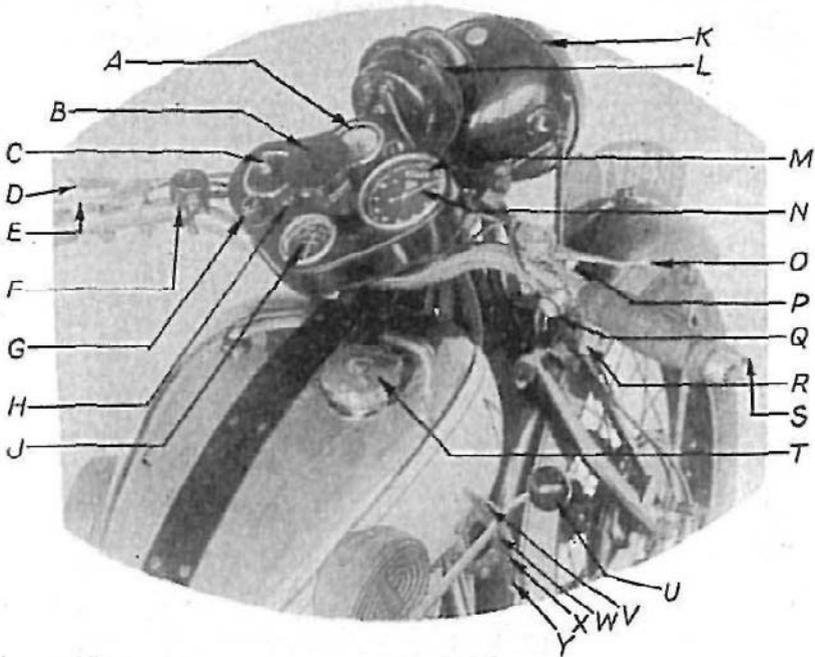

FIG. 45. THE MATCHLESS CONTROLS AND INSTRUMENT PANEL
**The Matchless Controls.** An excellent view of the Matchless control lay-out is shown at Fig. 45, where the de luxe instrument panel is also shown. It will be observed that it is extremely neat and comprises nine controls, all of which have provision for making adjustments. The four engine controls are: (a) the throttle lever or twist-grip, opening inwards; (b) the air lever, also opening inwards; (c) the ignition lever, similarly advanced; (d) the decompressor or exhaust valve lifter. The five cycle controls are: (e) the gear-lever; (f) the clutch; (g) the rear brake pedal (inter-connected with the front brake except on D, D/S); (h) the front brake lever; (i) the steering damper. Before attempting to start up the engine the novice is advised to become thoroughly acquainted with the controls and their action, and to remember that the gear lever and clutch lever must always be used simultaneously, and that physical force must on no account be used on the gear lever, especially on the four-speed models where the gears are not all in constant mesh. The ignition lever should be three-quarters advanced for starting-up, and afterwards kept as far advanced as possible.